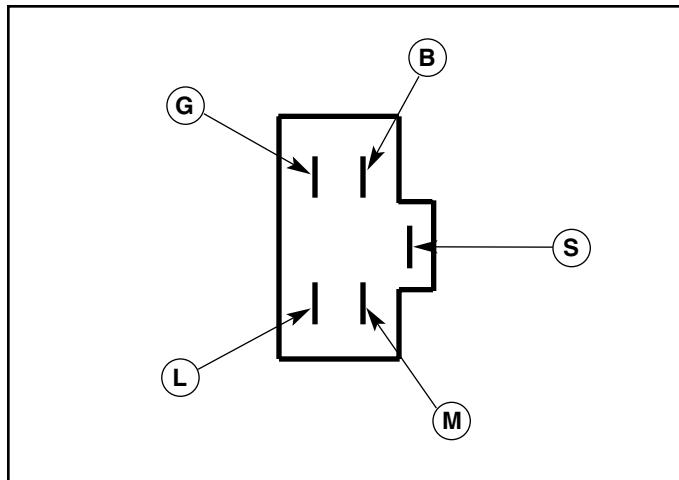

Figure 9. Ignition Switch Wire Harness (As Viewed From Engaging End)
3. Probe ground. Probe the "B" receptacle (see Figure 9) on the ignition switch plug. The VOM should show battery voltage. If not, check the battery, circuit breaker, and all connections.